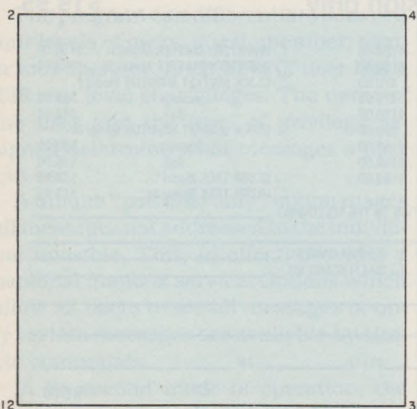
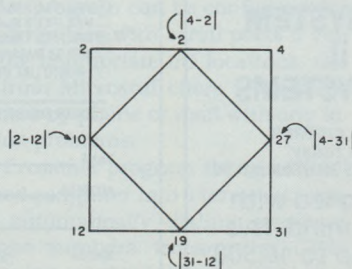

Fig. 1.
Fig. 2.
2. Draw a square, then choose four positive integers, each less than 100, and write them in any order at the vertices. For example, suppose you choose 2, 4, 12 and 31. You might then draw and label a square as in Fig. 1. Now draw another square inside the first as in Fig. 2. At the vertices of this square, write the absolute value of the difference of the numbers at the two corresponding vertices of the larger square. Repeat this process until you obtain a square whose vertices are all labeled with the same numbers as shown in Fig. 3. Now that this process is well understood, you're ready to address a few questions: